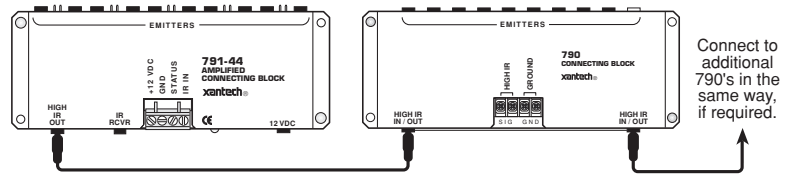

Fig. 5 Emitter Expansion
- **HIGH IR OUT** port for emitter expansion (3.5mm mini mono jack). See **Fig. 5.**
- Power requirements: 12 volts DC. Uses 781RG or 782-00 Power Supplies (see item 3 below).
You may daisy chain up to a maximum of 9 model 790's for 100 emitter ports total as shown in **Fig. 5**. Be sure to use an adequate power supply. **CAUTION: Never plug emitters directly into the HIGH IR OUT or HIGH IN/OUT ports. To do so will destroy the emitters!**